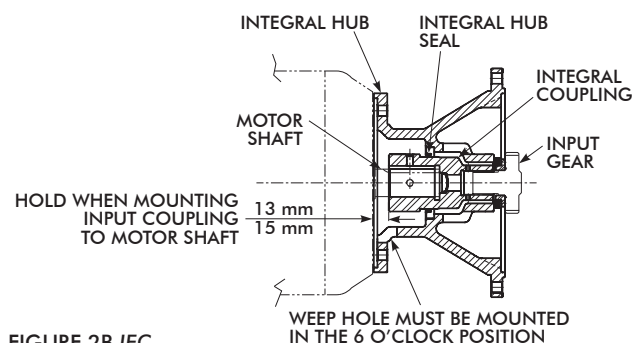

FIGURE 2B IEC
- b. **IEC Motor Flange Coupling:** Locate the coupling 13.0 mm to 15.0 mm from the motor face. Refer to the illustration in Figure 2B.